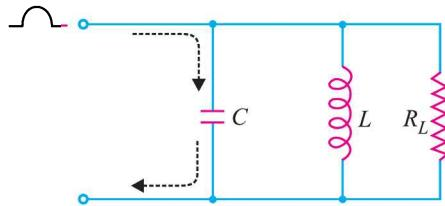

Fig. 15.19
- (iii) When this pulsed output is fed to the LC circuit, **sine-wave output is obtained. This can be easily explained. Since the pulse is narrow, inductor looks like high impedance and the capacitor like a low impedance. Consequently, most of the current charges the capacitor as shown in Fig. 15.19.